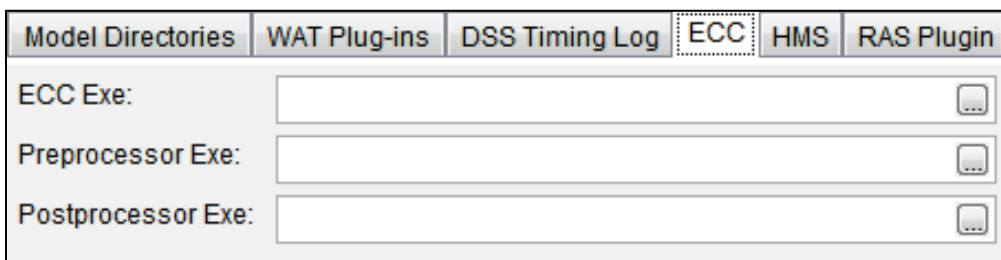

Figure B.18 Options Dialog Box – ECC Tab
1. From the HEC-WAT main window (Figure B.2), from the **Tools** menu, click **Options**. The **Options** dialog box will open (Figure B.3), click the **ECC** tab (Figure B.18).
- For the ECC software to run in HEC-WAT, the user must provide the location of the ECC executable (**ECC Exe** box, Figure B.18); the location of the ECC pre-processor (**Preprocessor Exe** box); and, the location of the ECC post-processor (**Postprocessor Exe** box).